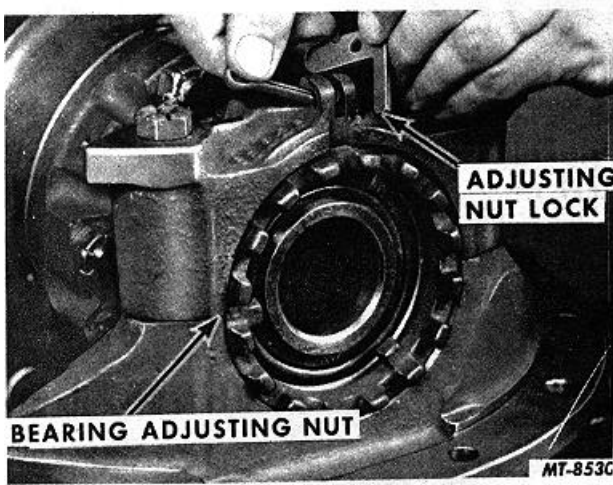

Fig. 9 Adjuster Lock Removal
1. Remove cotter pins from bearing adjuster locks and remove locks from bearing caps, Fig. 9.
3. **Set gear lash** between ring gear and pinion. Do this by moving the ring gear to or from the pinion by means of bearing adjusting nuts, Fig. 9.
4. **Preload differential bearings**. This is accomplished by tightening bearing adjusting nuts, Fig. 9.